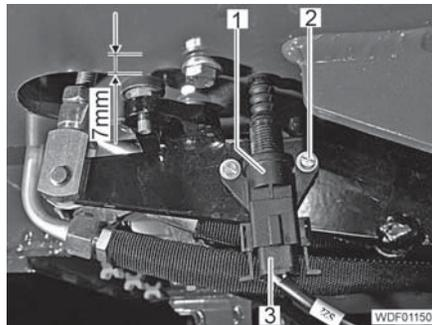

Fig. 436 Switch attachment
- ▷ Adjust the switch so that the brake lights come on when the pedal is depressed by 7 mm (Fig. 436).
- Remove the plug (Fig. 436,3).
- Unscrew the 2 screws (Fig. 436,2).
- Remove the switch (Fig. 436,1).
- Screw in the 2 screws (Fig. 436,2) with washers.
- Align the switch and tighten the 2 screws (Fig. 436,2).